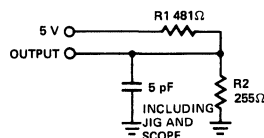

Figure 1b
- At any given temperature and voltage condition, tHZ is less than tLZ for all devices. Transition is measured ±500 mV from steady state voltage with specified loading in Figure 1b.